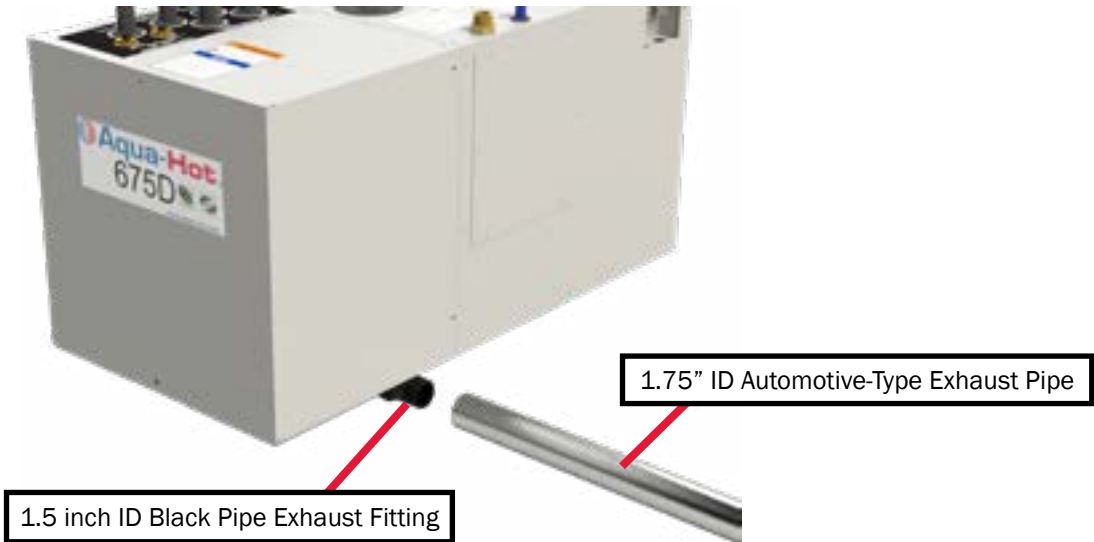
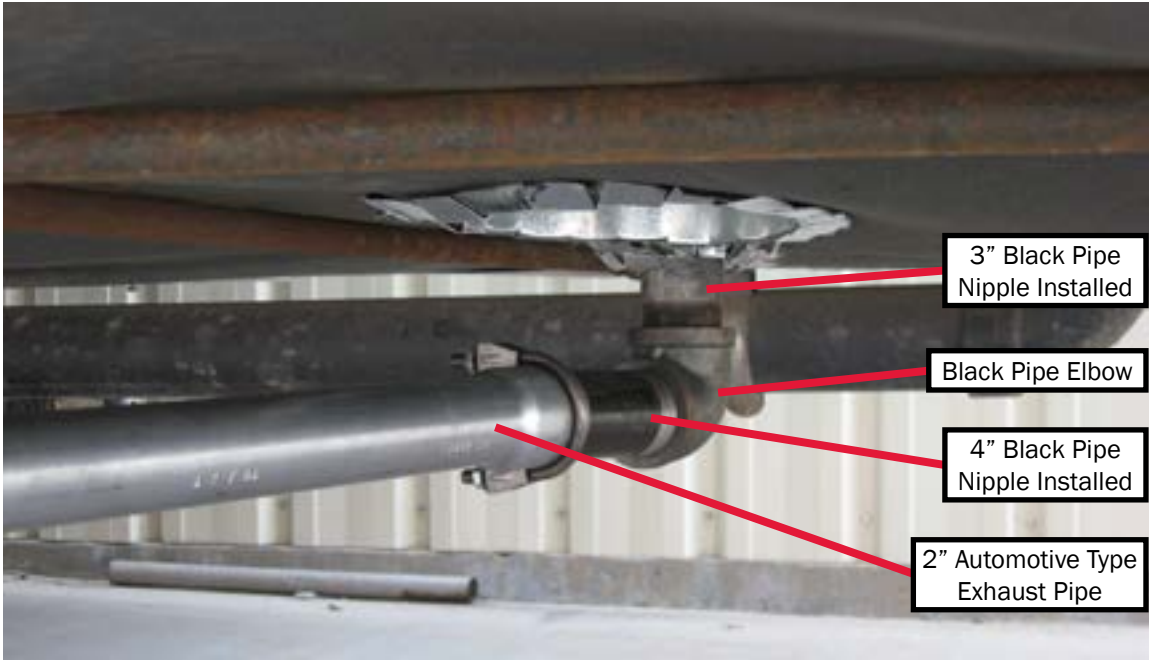

Figure 16
Figure 20
- Use standard 2" automotive-type exhaust piping and avoid bends, if possible. A minimum 1.75" ID automotive-type exhaust pipe may be used. See Figure 16 & Figure 20.